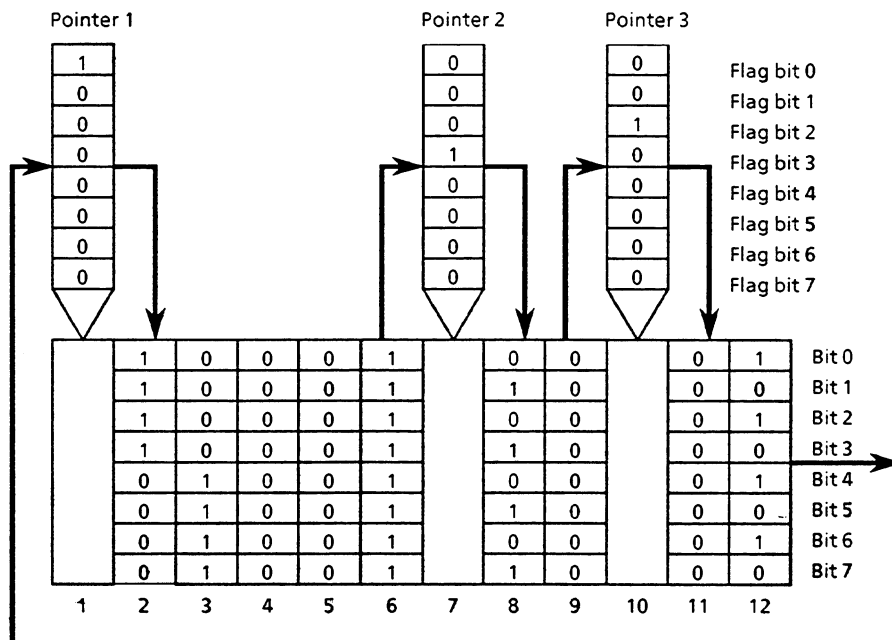

Fig. 20 Schematic diagram of the shift register with 3 pointers and 12 storage locations before the first clock pulse
- Before the SR function call: setting/resetting the flag bits (Fig. 20).